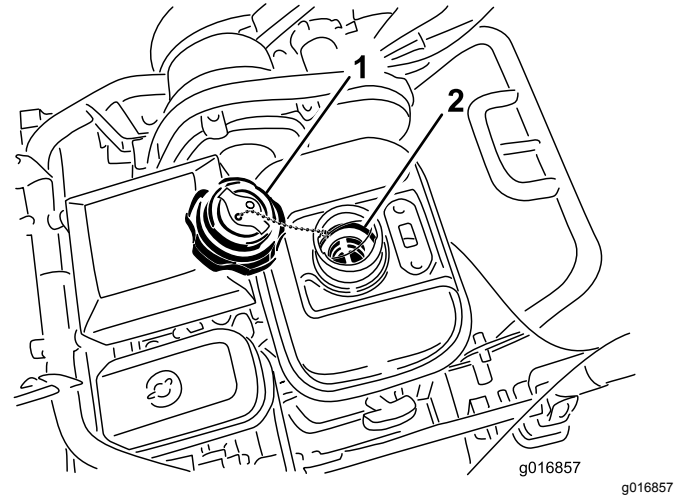

Figure 40
1. Unscrew and remove the fuel-tank cap from the fuel tank (Figure 40).